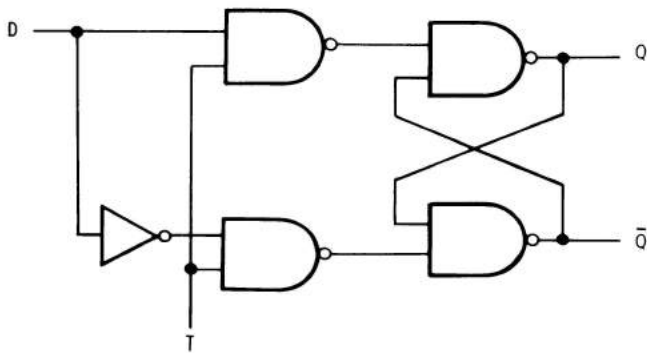

Figure 5-29
22. What type of flip-flop is shown in Figure 5-29?
23. In Figure 5-29, if the T input is high and the D input is low, what will be the state of the complement output? What will be the state of the normal output?
22. A D type flip-flop is shown in Figure 5-29.